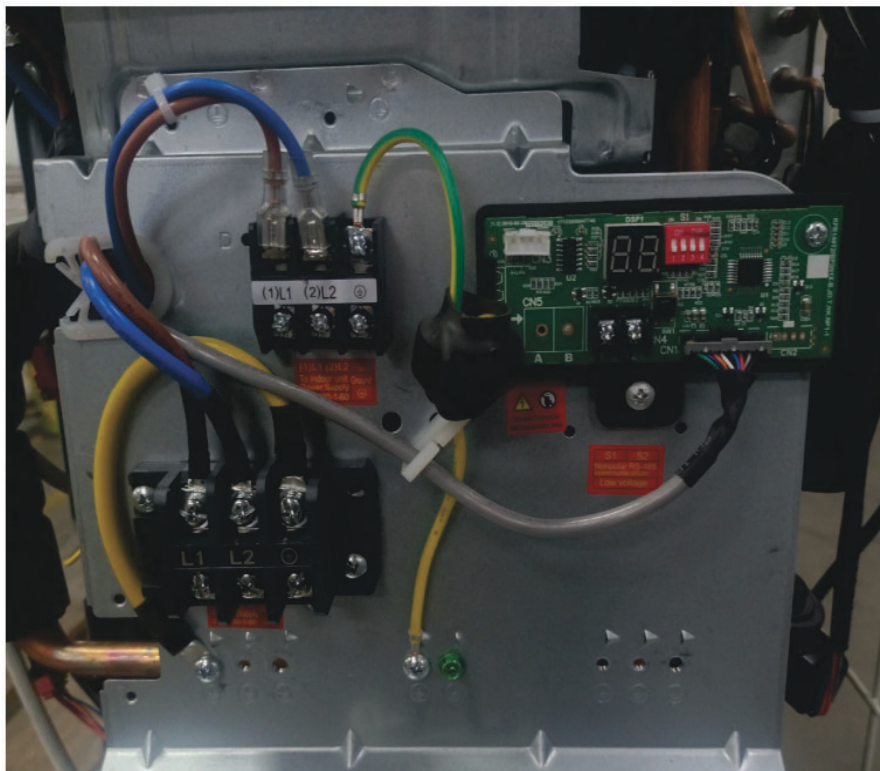

Fig. 25 —Grounding Wire Image - Size 36K
- 2. All connections between indoor and outdoor units must be as shown in Figure 25, 25, and 26. The connections are sensitive to polarity and will result in a fault code.